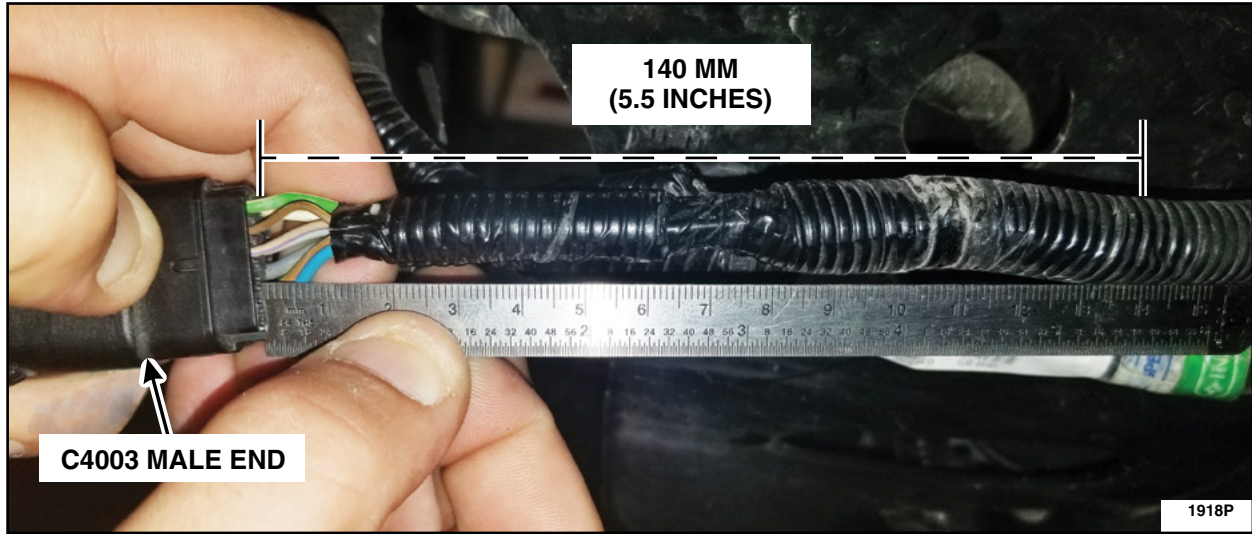

FIGURE 13
16. Measure 140 mm (5.5 in) from the back of the male end of C4003. See Figure 13.